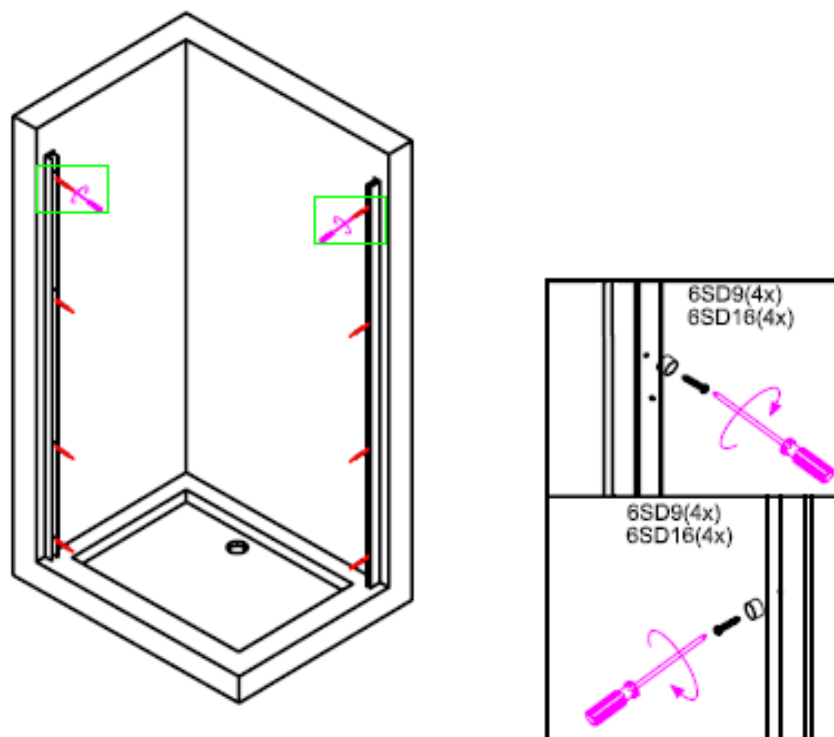

Figure 2
2. Fix the wall profile(6SD1) to the wall by using screw(6SD9) with caps, as showed in figure 2.